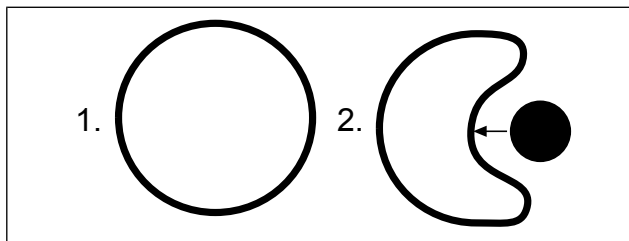

Fig. 14. Installing the gaskets.
4. Remove the Allen screws (F) that fasten parts H & I, and detach these parts from each other.
7. Install O-rings into the grooves in the sealing element. The gaskets are hard, so be very careful when installing the wiper and gaskets into the grooves in the sealing element! When installing, use a round rod (diameter about 10mm / 0.4") to push the gasket from one side (see Fig. 14). When a gasket is compressed as shown in the picture, it can be inserted into its groove in the sealing element, on the O-ring. If necessary, press the seal carefully so that it goes properly into the groove.
9. Reassemble the removed parts in reverse order. When pushing the actuator through parts G, H & I, be careful not to damage the gaskets (J & K). NOTE: Apply some locking glue (Loctite 270) on the screws holding the retainer ring (B).